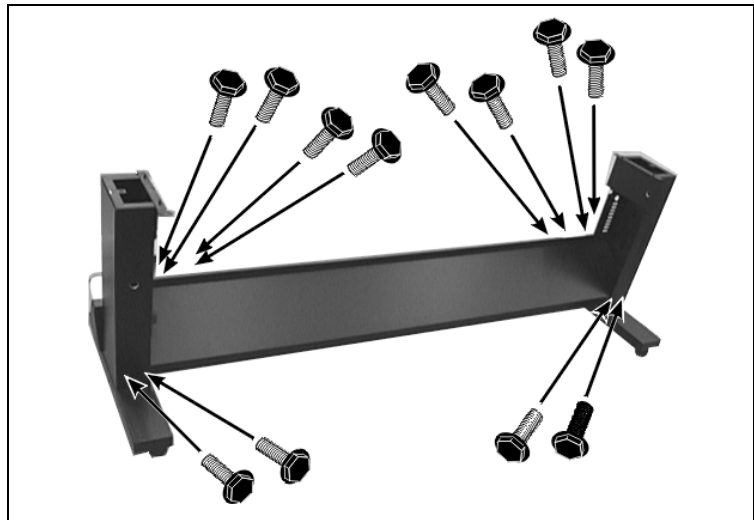

Fig. 1-1. Stand assembly
12. Using the twelve 10 mm hex-head screws provided, assemble the stand (see Fig. 1-1).